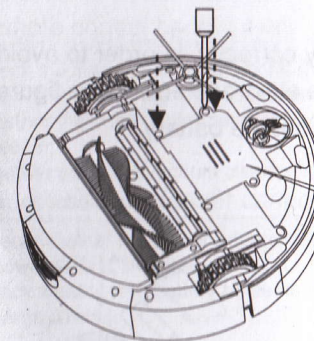
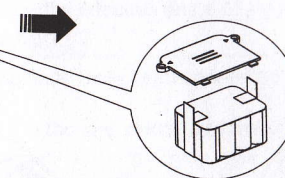

Figure 1
Figure 2
1. Loosen the screws with the screw drive and open the battery installation plate to take out the battery. (See figure 1 and figure 2)